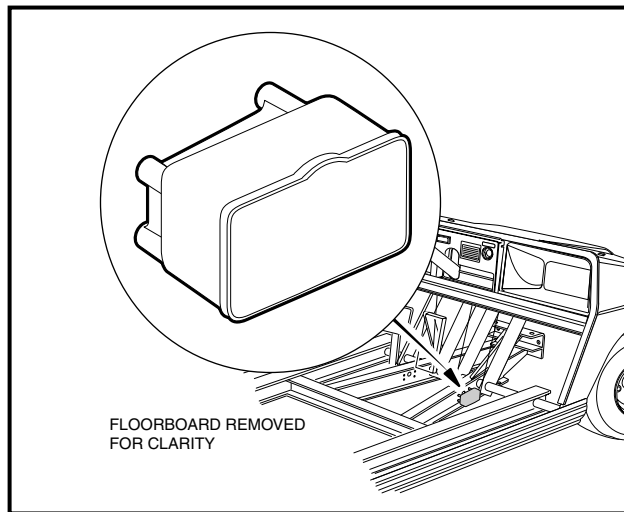

Figure 3-1 Electric Vehicle Equipped with MCOR (Motor Controller Output Regulator)
- MCOR (Motor Controller Output Regulator) (**Figure 3-1, Page 3-3**).